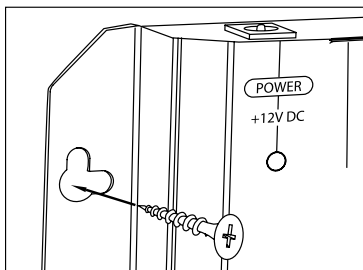

Figure 8. Wall-mount placement
- 1) *Wall-mount (affixed to the back of the equipment cabinet or a nearby wall) (Figure 8)*